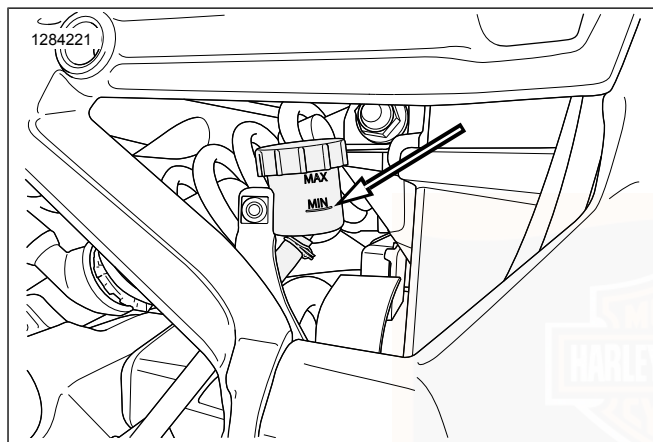

Figure 54. Rear Master Cylinder Reservoir MIN Level
3. **Rear:** See Figure 54. Check level on side of rear brake reservoir. Level must be above MIN.